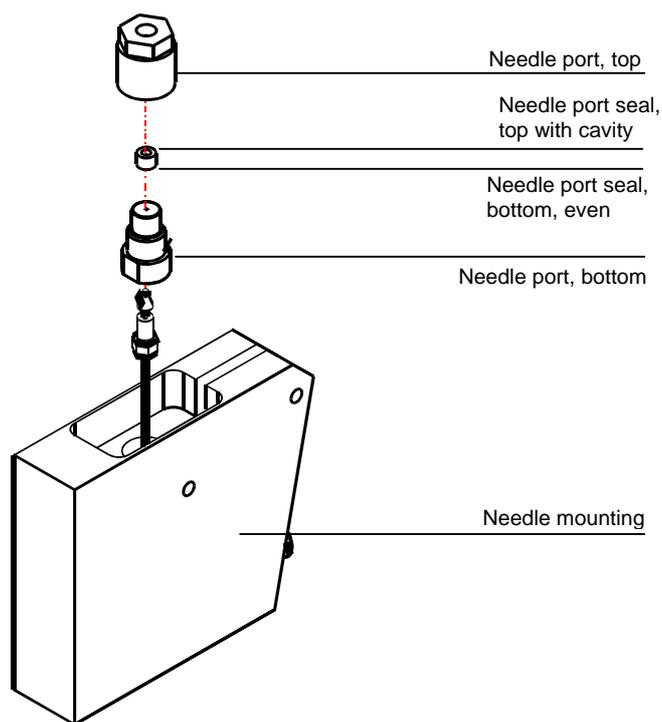

Fig. 31: Needle port with needle port seal
- The needle port seal has two different sides: The top provides a cone-shaped cavity into which the needle moves. The bottom is even. Using a pair of tweezers, insert the needle port seal into the top part of the needle port without tilting the seal. The top of the needle port seal must point to the top of the needle port (→ *Fig. 31*). If the seal is correctly installed, it will seal smooth with the respective cutout in the top part of the needle port.